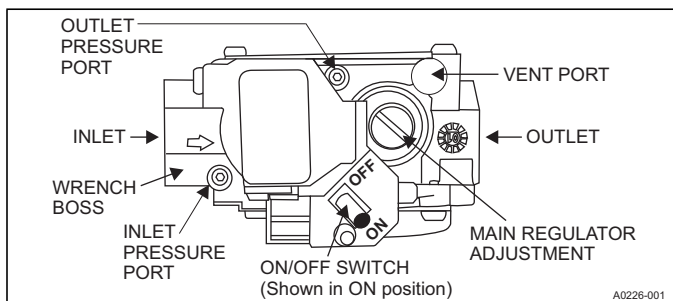

FIGURE 2: Gas Valve
Inlet and manifold gas pressure may be measured by connecting the "U" tube manometer to the gas valve with a piece of tubing. Follow the appropriate section in the instructions below. Refer to Figure 2 for the locations of the pressure ports on the gas valve.
the manometer, as it will reference atmospheric pressure. Refer to Figure 2 for inlet pressure port location.
1. Refer to Figure 2 for location of pressure regulator adjustment cap, and adjustment screw on main gas valve.